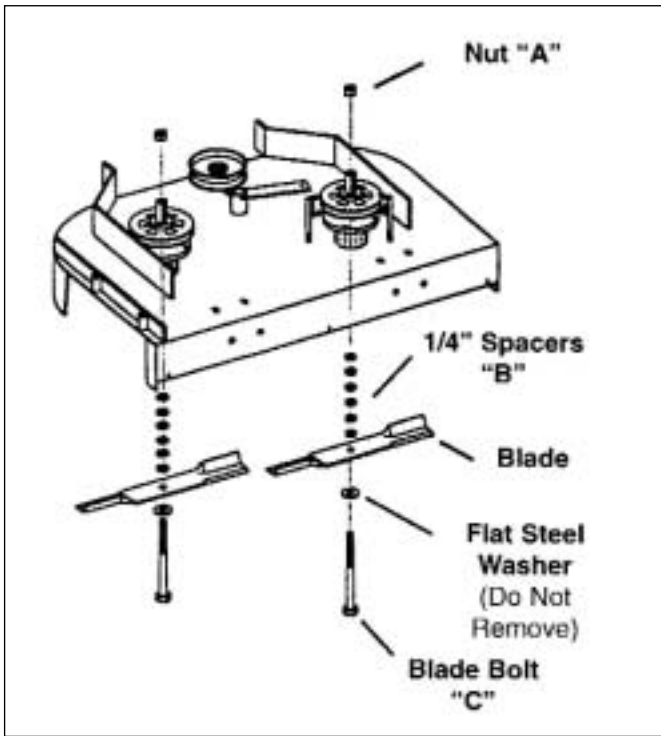
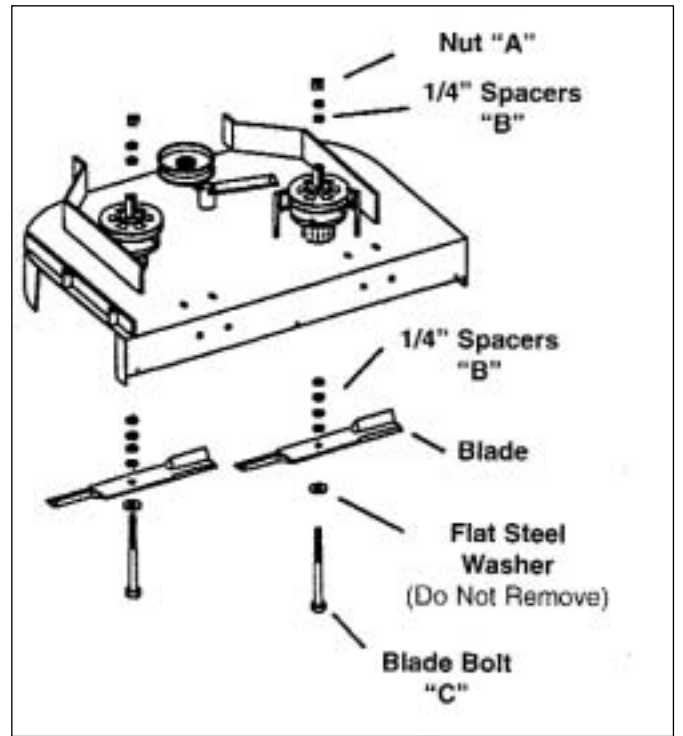

Figure 6
Figure 7
3. Using two (2) 15/16" box end wrenches, use one wrench to loosen nut "A" while holding blade bolt "C" with the other wrench (Figure 6).
Example: If the height of cut needs to be raised 1/2", move two (2) of the 1/4" spacers "B" on each blade from underneath the mower (Figure 6) to the top of the mower (Figure 7).
7. Install the blade spacers that were removed, back onto the blade bolt followed by the nut and tighten (Figure 6).